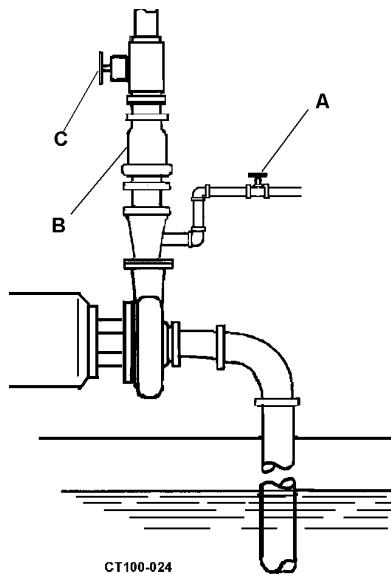

Figure 22 - Pump Above Supply
1. Open the discharge valve (Figure 22, item C).
NOTE: Use a check valve system (Figure 22, item B) to keep the supply line and pump casing flooded with liquid; otherwise the pump must be primed before each operation.